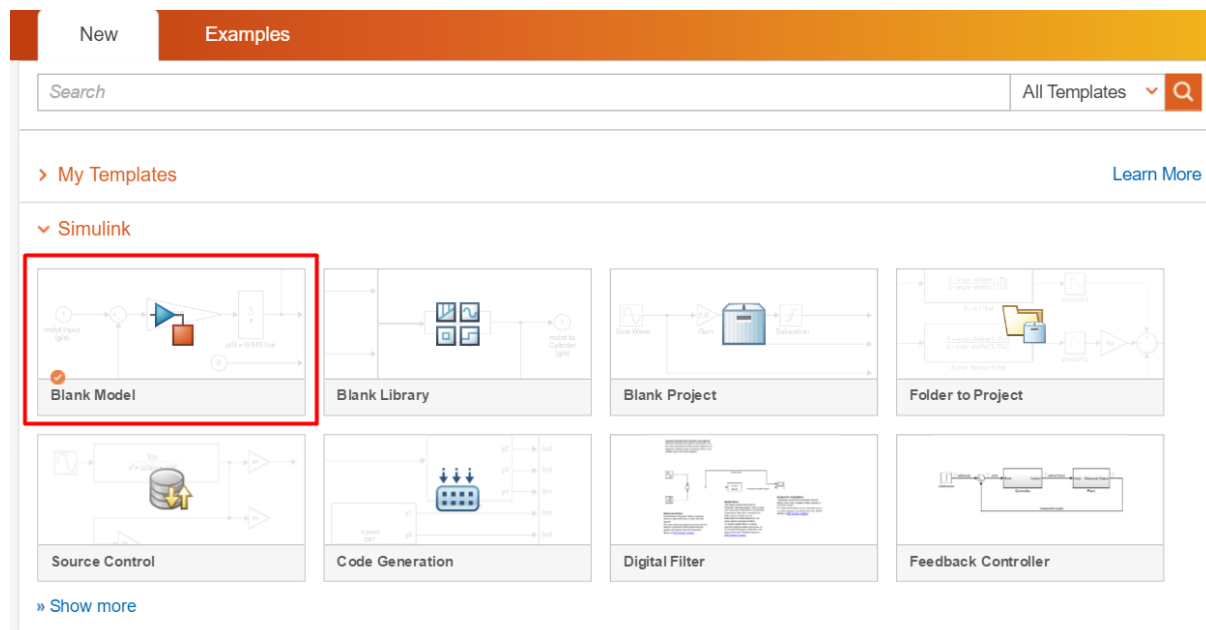

Figure 13.61: Create a Simulink model.
2. (Figure 13.61) Create a new Simulink model using the blank model template.